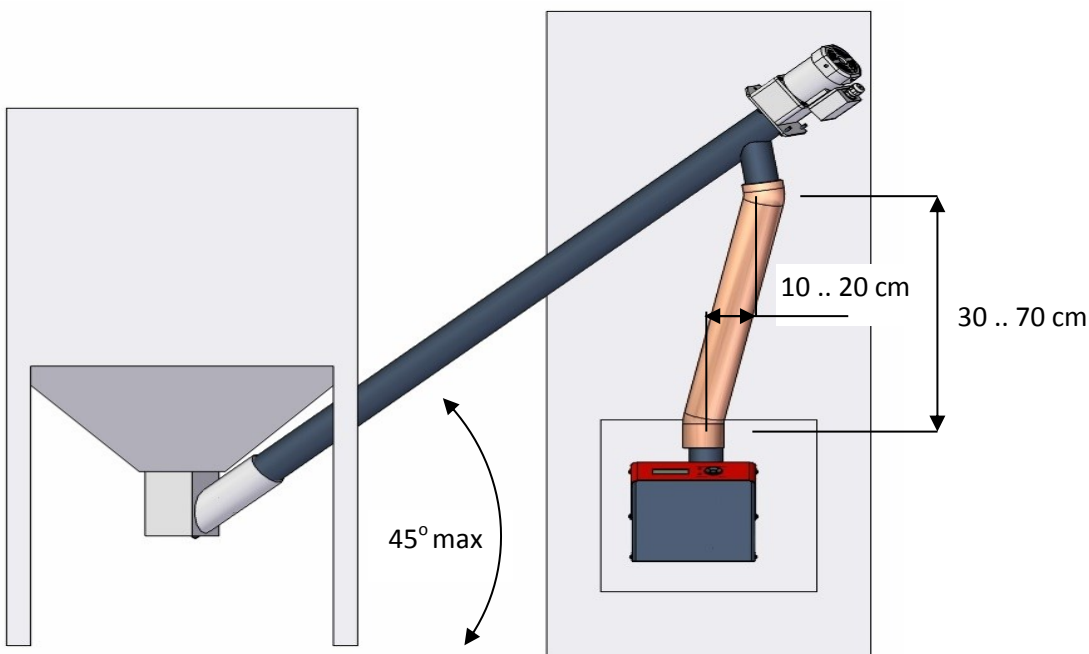

Figure 12 External auger installation
- The container must be positioned in a way that the raising angle of the feeding auger does not exceed 45° (refer to Figure 12).
Figure 12 shows correct position for external auger. As the hose is a safety device, it must be placed strictly as described below. The vertical distance between auger outlet and burner inlet must be in range of 40 to 70 cm and horizontal displacement 10 to 20 cm (typical auger angle 30° .. 45°). External auger cannot be installed in position with angle greater than 45° . The hose must be in angle of 50° or more to ensure free falling of the fuel.
- External auger is connected to burner and auger position is according to requirements in Figure 12.